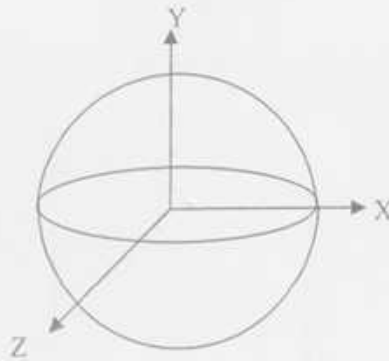

Figure 1
1. Determine the mass moment of inertia about Y-Y axis of the sphere shown in Figure 1.